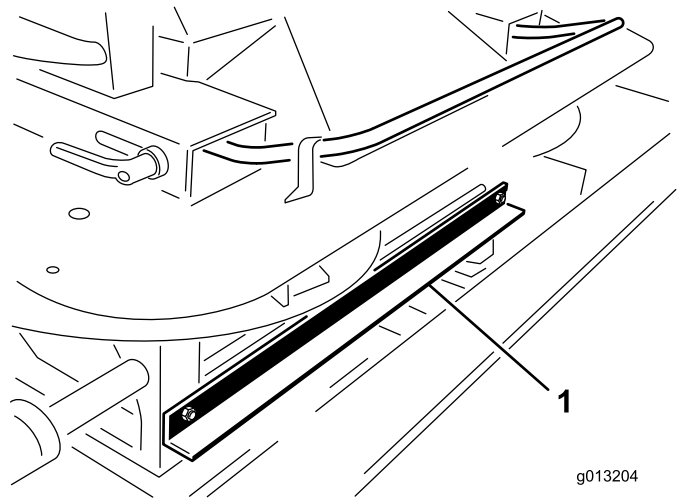

Figure 4
3. At the front of the twin spinner, remove the two 1/4 x 3/4 inch bolts and nuts attaching the ProPass lifting device shipping bracket to the Twin Spinner (Figure 4).